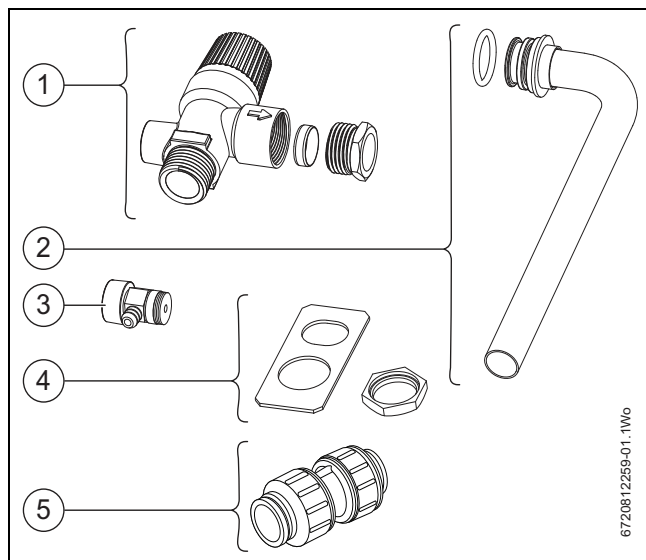

Fig. 1 Standard package
- Fit the "O" ring onto the 15mm adaptor pipe figure 1, item [2] and insert into the pressure relief valve housing.